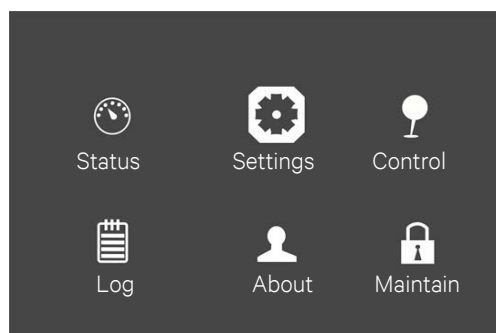

Figure 5-14 Main menu screen
1. On the main menu screen, press the  or  key to switch the cursor to select 'Settings', then press the  key to confirm it. See Figure 5-14.